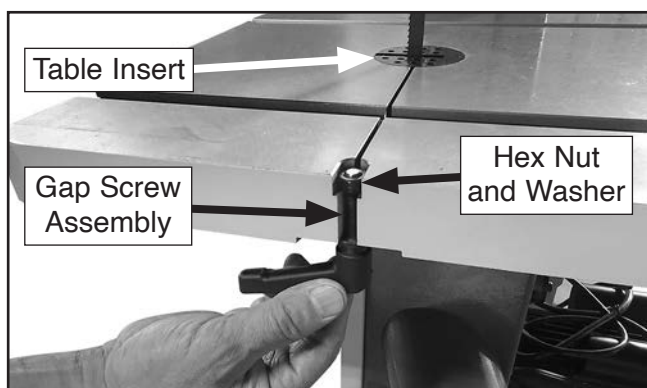

Figure 28. Table insert and gap screw installed.
6. Install table insert (see **Figure 28**).
7. Install table gap screw assembly, secure with (1) M8-1.25 hex nut and (1) 8mm flat washer (see **Figure 28**), then tighten gap screw to ensure table surface is flush across gap.